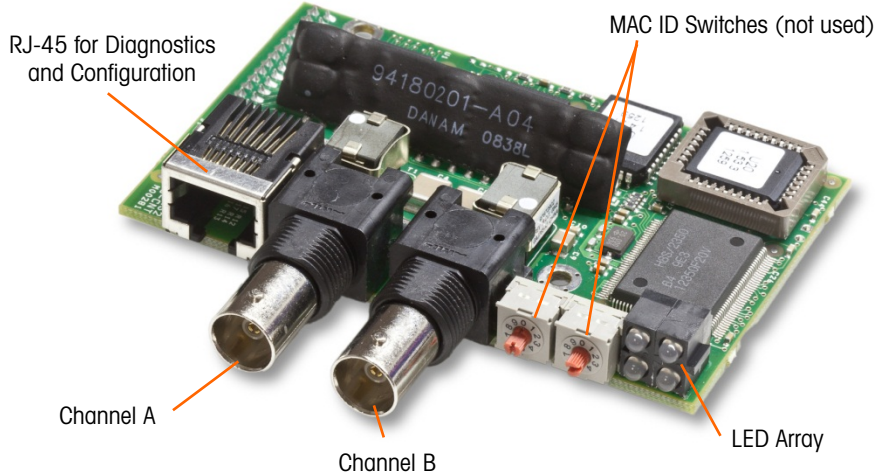
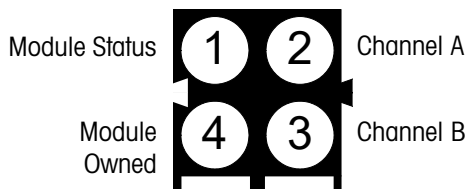
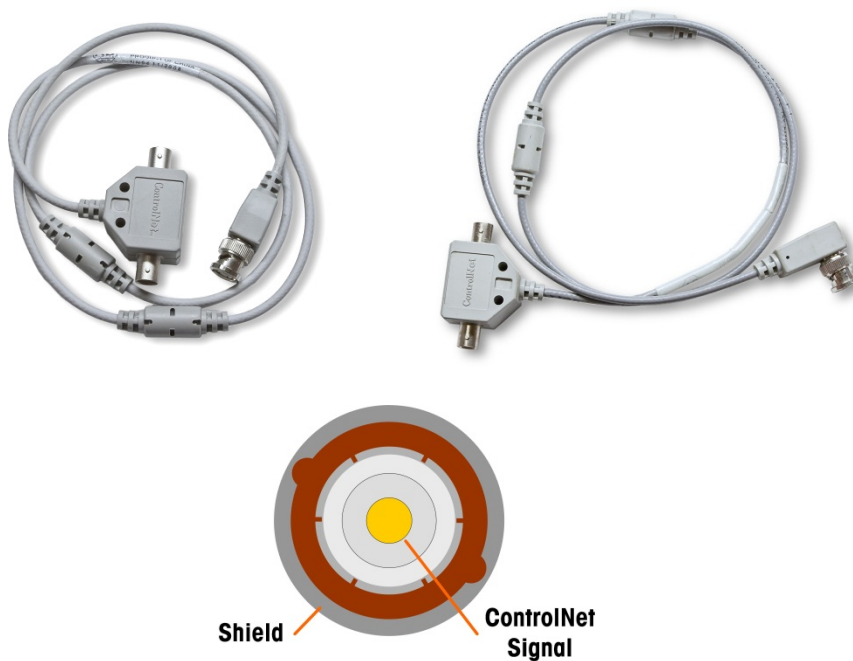

Figure 2-99: ControlNet PLC Module Connections and Components
Figure 2-100: ControlNet Status Indicator LEDs
Figure 2-101: ControlNet Cables and Connector
The ControlNet PLC Module (Figure 2-99) connects to the ControlNet network via one or two coaxial cables (Figure 2-101). Channel B is redundant with Channel A, and is not used unless ControlNet detects no signal on Channel A. Note that the module's address is set in software, and the MAC ID switches indicated in Figure 2-99 are not used.
- Do **not** plug an Ethernet cable into the RJ-45 connector shown at left in Figure 2-99. Damage to the IND780 may result.
Figure 2-100 shows the array of status indicator LEDs on the ControlNet card (see also Figure 2-99).
Figure 2-101 shows an example of a ControlNet cable, and a close-up view of the connector. Note that the connector may be right-angled or straight. This cable is not supplied by METTLER TOLEDO.